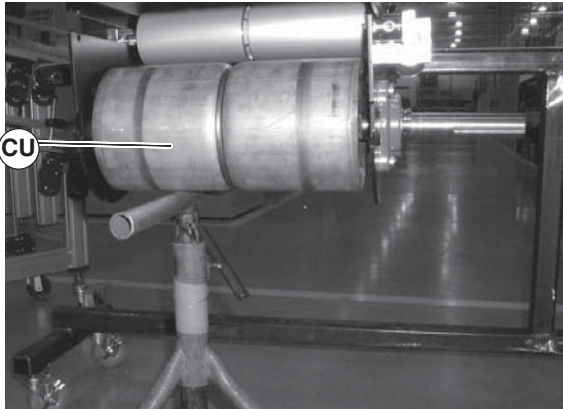

Figure 81
8. Temporarily support the drive pulley (Figure 81, item CU).